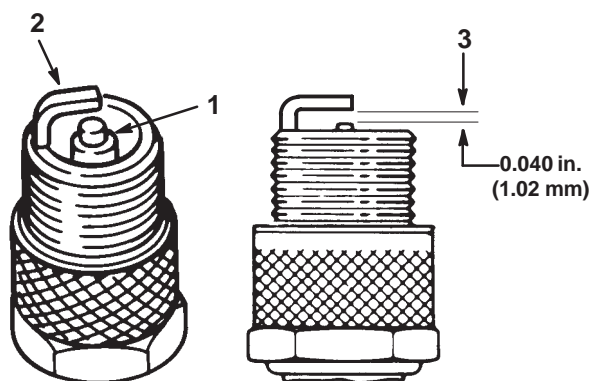

Figure 27
1. Look at the center of the spark plug(s) (Fig. 27). If you see light brown or gray on the insulator, the engine is operating properly. A black coating on the insulator usually means the air cleaner is dirty.
2. Check the gap between the center and side electrodes (Fig. 27). Bend the side electrode (Fig. 27) if the gap is not correct.